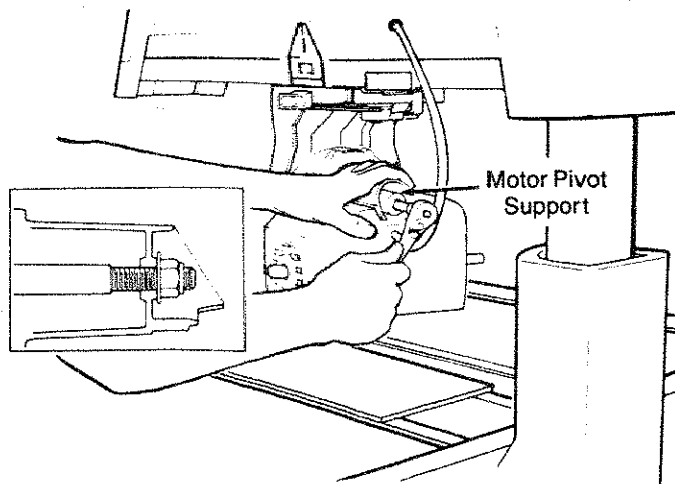

Fig. 18
7. Remove the *lock nut* and *flat washer* from the *motor pivot support*. (Figure 18)